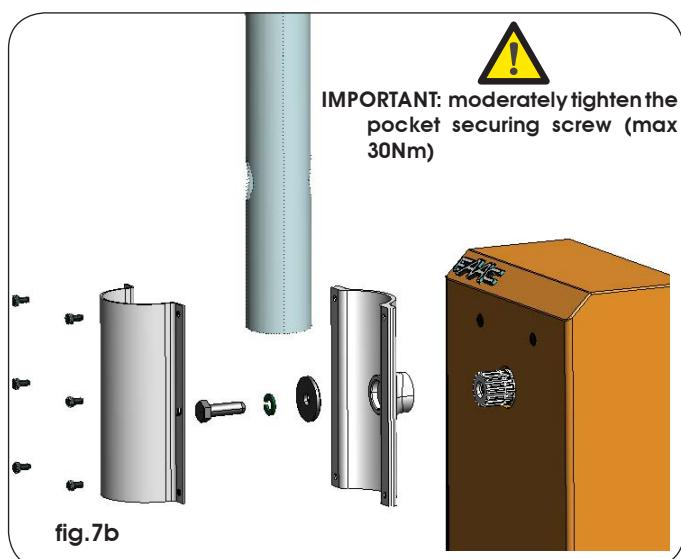

fig.7b
- 3) Assemble the bar as in fig.7a for the rectangular version, or as in fig.7b for the round version.